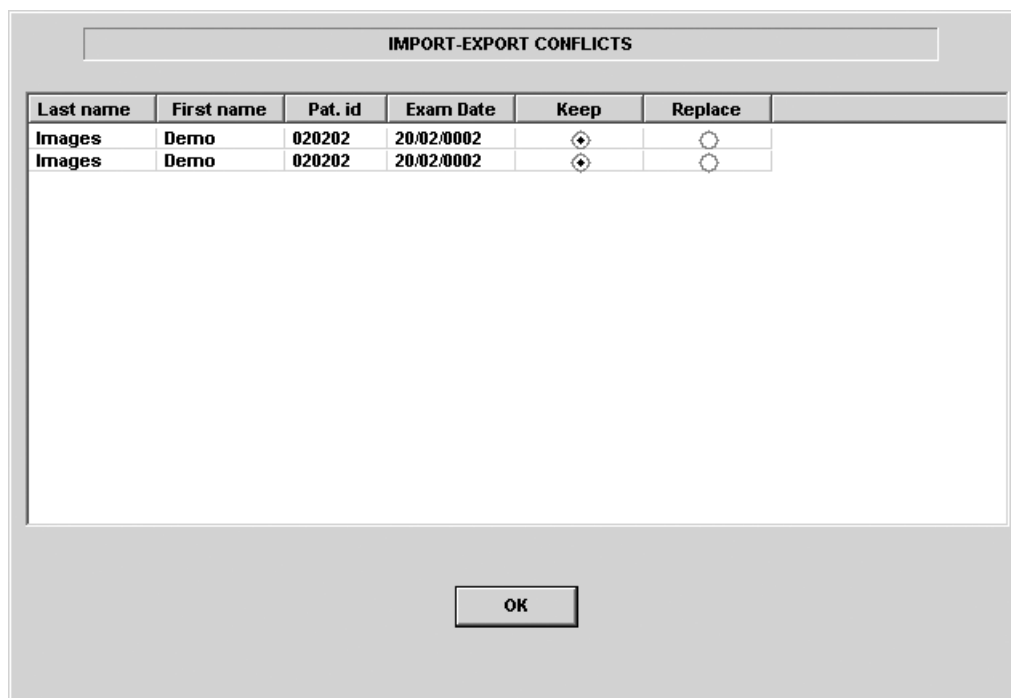

Figure 2-11: The Export/Import conflict window
- If one or more patient examination is already present in the destination archive the *Export/Import conflict window* is displayed (see Figure 2-11). For each conflicting item, select: